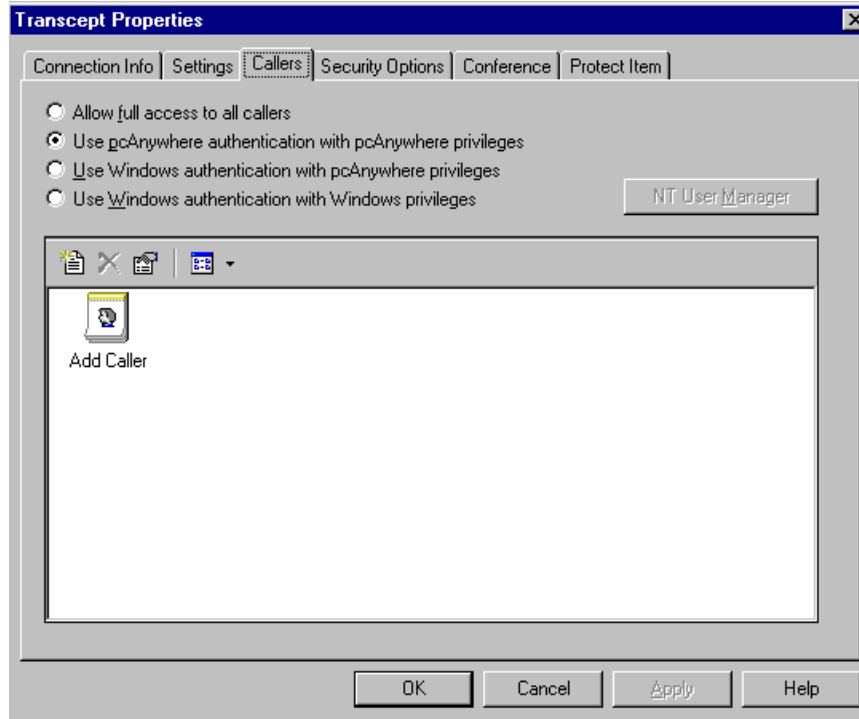

Figure 5-7. Callers Tab in Properties GUI
- a. In the Be a Host GUI, right click on the session icon you created in the last section. Select the properties item from the pop-up menu. When the Properties GUI appears select the "Callers" tab as shown in Figure 5-7.